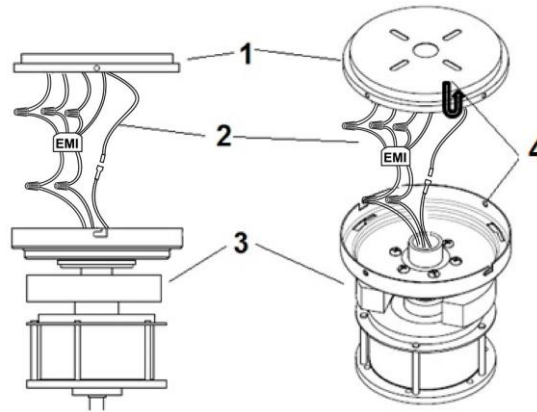

Fig. 6
Lift the fan assembly to the mounting bracket (1) and let the J-hook of the mounting bracket (4) go through the hole of the hanging plate and hang up the fan assembly (3). Fig. 6
Connect the male and female connector together (2). Fig. 6